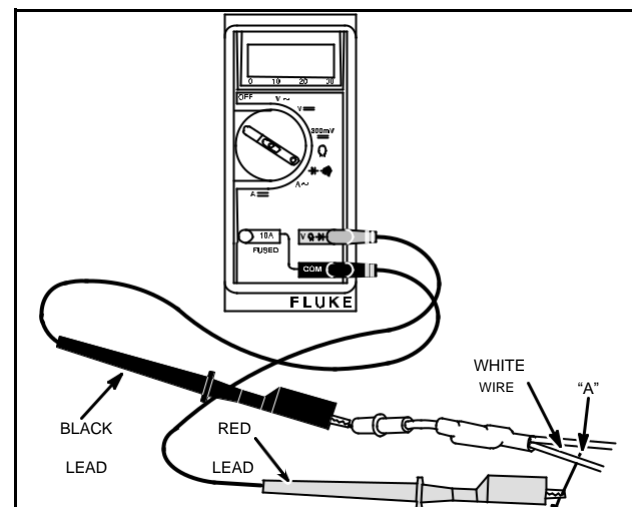

Fig. 21 – Diode Testing – Lighting Circuit
4. Attach RED test lead clip to point “A,” Fig. 21. (It may be necessary to pierce wire with a pin as shown.)